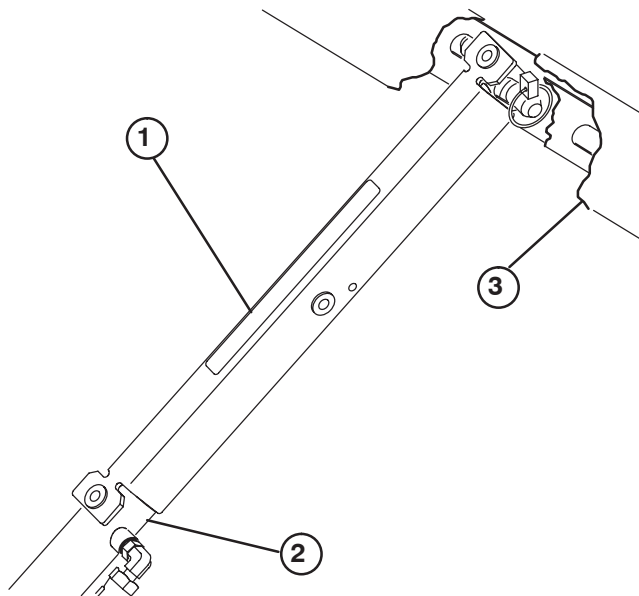

Figure 28
3. Push bed support onto cylinder rod, making sure support end tabs rest on end of cylinder barrel and on cylinder rod end (Fig. 28).